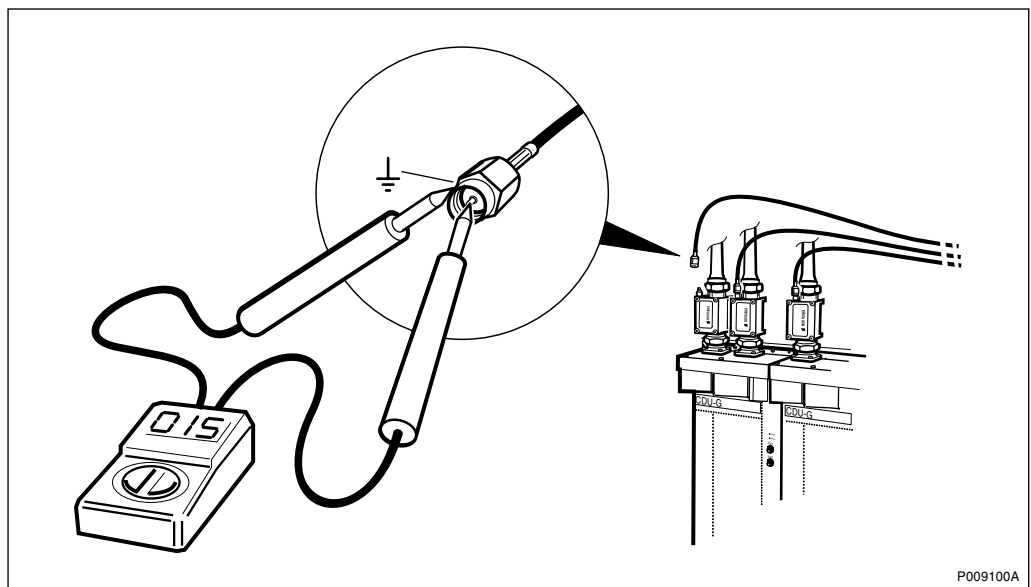

Figure 41 Measuring the voltage on the bias injector DC cable
1. Use a multimeter to measure that 15 V DC is being supplied to the bias injector, see *Figure 41* on page 99 .
1. Use a multimeter to measure that 15 V DC is being supplied to the bias injector, see *Figure 41 on page 99* .